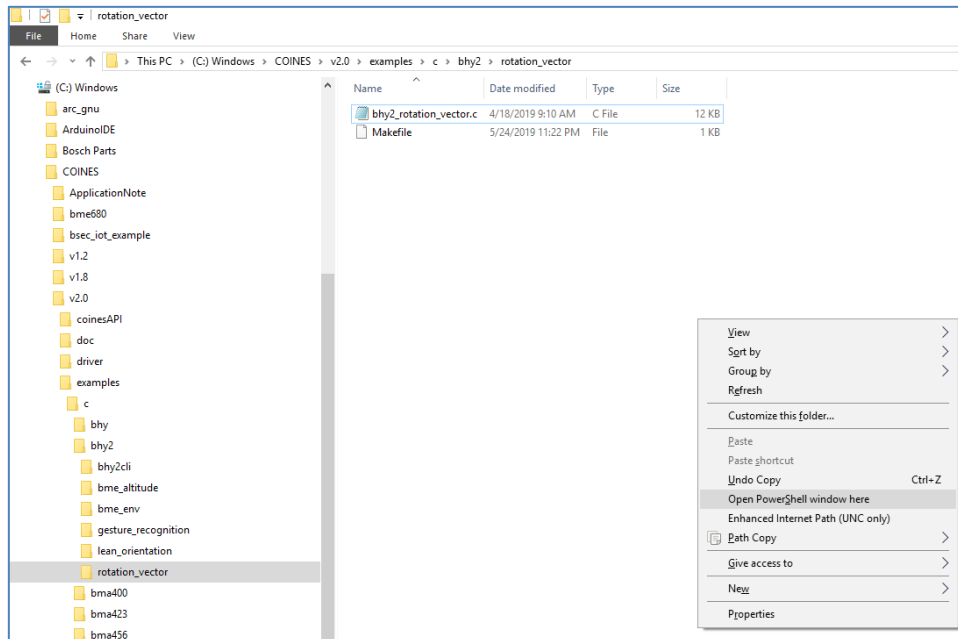

Figure 6 COINES example folder
- Go to folder C:\COINES\v2.0\examples\c\bhy2\rotation_vector in Windows File Explorer. Then press and hold "Shift" key on the keyboard and then right click the mouse. Select "Open PowerShell window here" as shown in Figure 6.